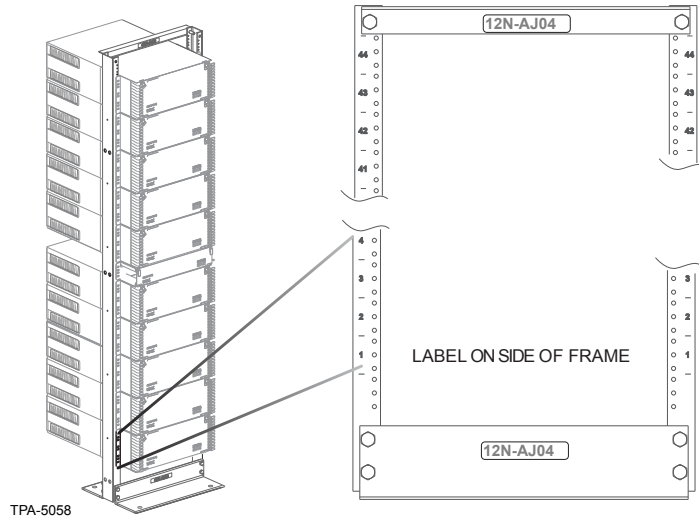

Figure 29 — Housing/Chassis Label Location
Step 2: Housing/Chassis Location (Figure 29)